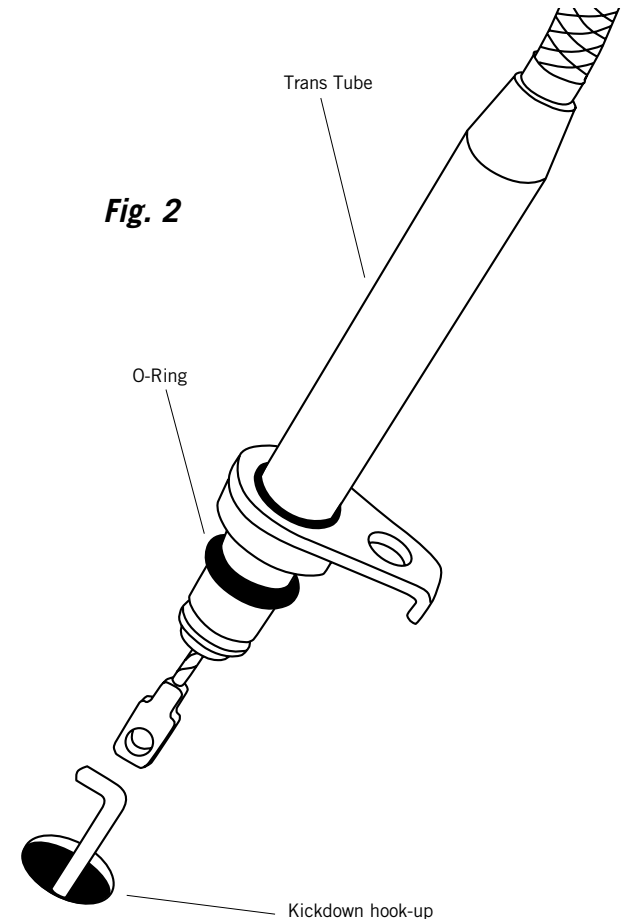

Fig. 2
Step 4: Remove and re-install trans tube with inner cable and o-ring in place. To insure against leakage add a small amount of silicone (sealant) around the trans tube above top o-ring. **Fig. 2**